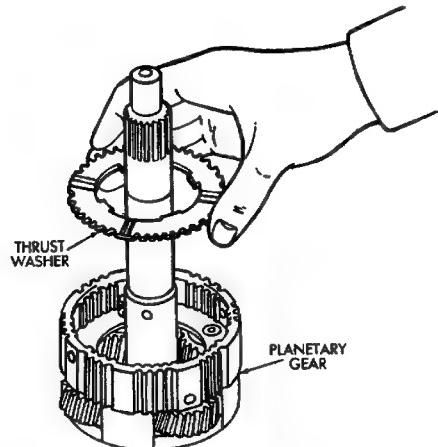

Fig. 20 Install Planetary Thrust Washer
(1) Install thrust washer in planetary gear (Fig. 20). Grooved side of washer faces up and toward front.